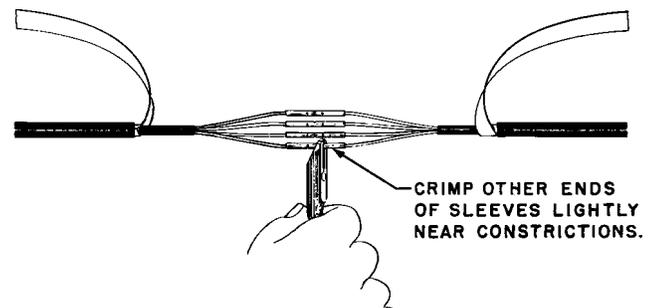

Fig. 8 – Wires Joined and Ready to be Pressed
4.02 Insert the prepared conductor ends of the other wire into the sleeves, matching the wires, color to color. Again crimp the sleeves lightly with the diagonal pliers to hold the conductors, as shown in Fig. 8.